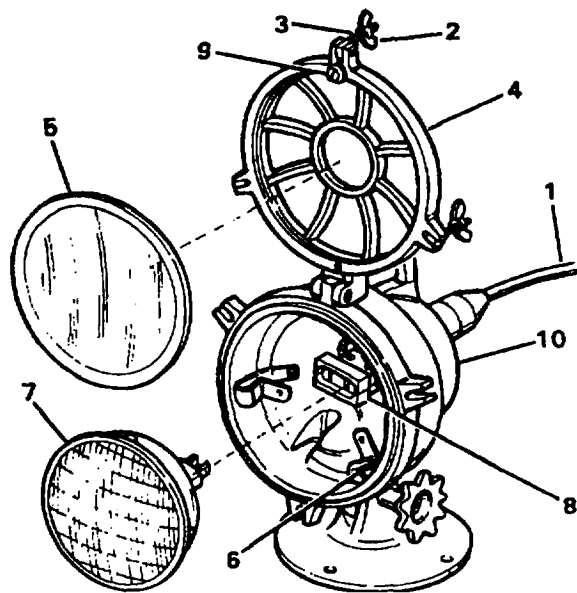

Figure 3-22. Heat Lamp
Heat lamp cable (1, Figure 3-22) disconnected from outlet at van.
- Refer to Figure 3-22 and loosen three wing nuts (2), pivot wing nuts and studs (3) off frame (10).
- Swing cover (4) off frame (10).
- Remove lens (5).
- Depress clamps (6) with screwdriver and remove bulb (7) by pulling straight out of connector (8).
- Install bulb (7) by pressing it into connector (8).
- Install lens (5) on positioning washer (9). Swing lens cover (4) into place, pivot studs (3) with wing nuts (2) onto frame (10) and tighten wing nuts (2).